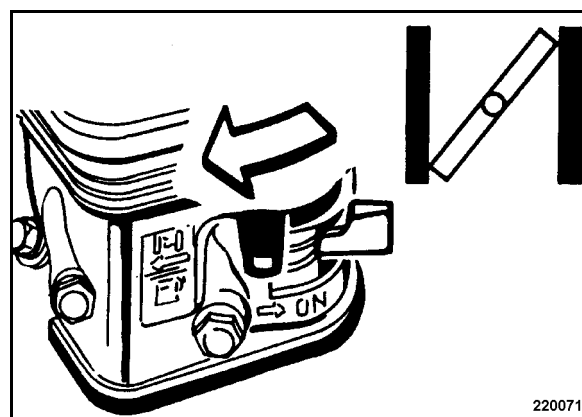

Fig. 26
- If the engine stops again after approx. 3 to 5 seconds, close the choke again with the lever (Fig. 26) and repeat the starting process.